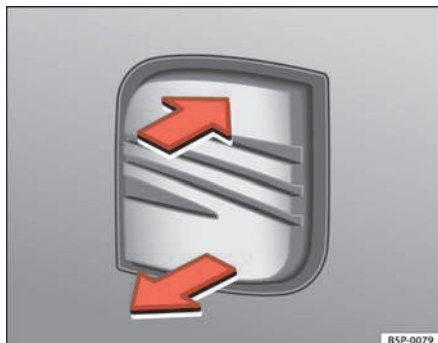
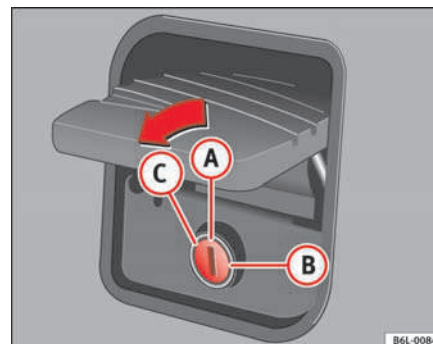

Fig. 50 Boot lid: opening from the outside
Fig. 51 Closing the tailgate
- Pull on the release lever and lift the tailgate ⇒ fig. 50. The keyhole should now be in a vertical position ⇒ fig. 51 **A**.
When the keyhole **A** ⇒ fig. 51 is in a vertical position, the tailgate will open and lock automatically using the central locking system. Also, the tailgate may be opened and locked using a key.
When the keyhole is horizontal **B** ⇒ fig. 51, if the tailgate is closed it remains locked and can only be opened again using the main key.
To open the tailgate the key must be turned all the way **C** ⇒ fig. 51 in the direction of the arrow. In this position the key may not be removed from the lock.